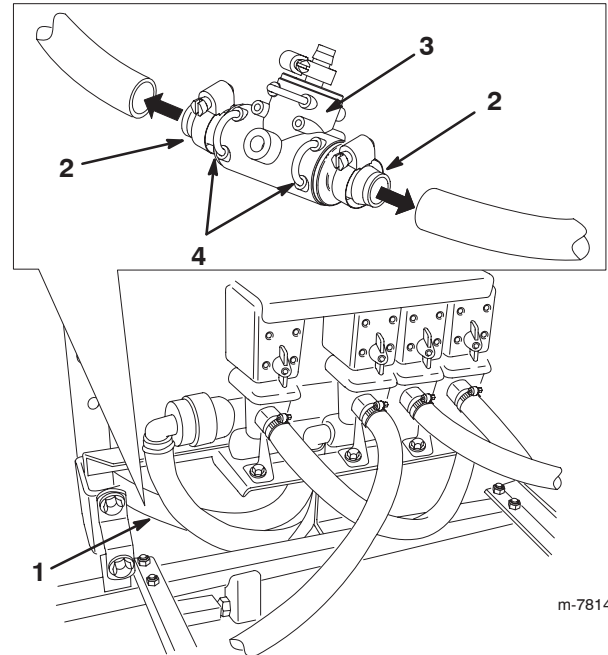

Figure 6
5. Cut the by-pass hose half way between the boom valves and the tank (Fig. 6).
6. Using liquid soap on the barbs, insert an S53 tee fitting into each hose end and secure them using 2 large, hose clamps (Fig. 6).
7. Assemble the S53 tee to the fittings, using 2 small retainers (Fig. 6).
8. Connect the other end of the long hose assembly to the open fitting on the S53 tee that you installed into the by-pass hose (Fig. 6) and secure it with a small retainer.